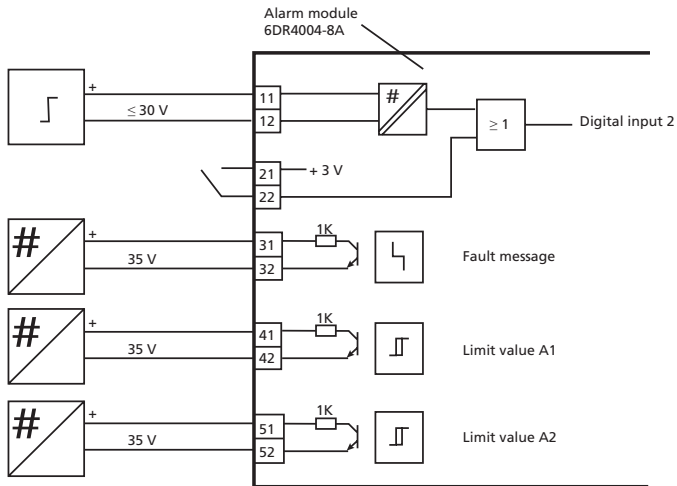

Figure 12. - Alarm unit 6DR4004-8A, not Ex
4. Refer to Figures 12 and 13 to connect the Alarm unit in standard and intrinsically safe applications